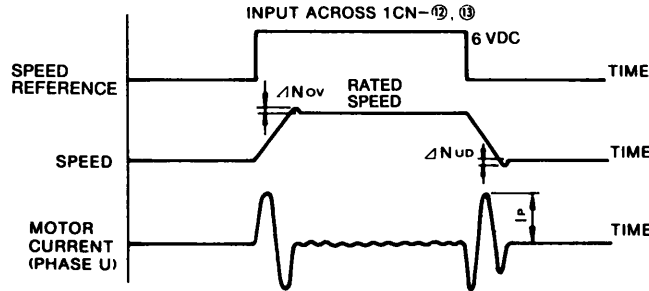

Fig 10.3 Start-Stop Characteristics
(3) Start-stop characteristics (Fig. 10.3)